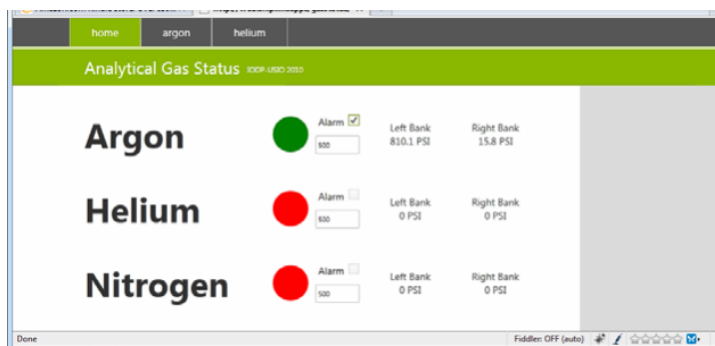

Figure 14. Overview/alarm display screen.
- Overview/alarm display (*Figure 14*)